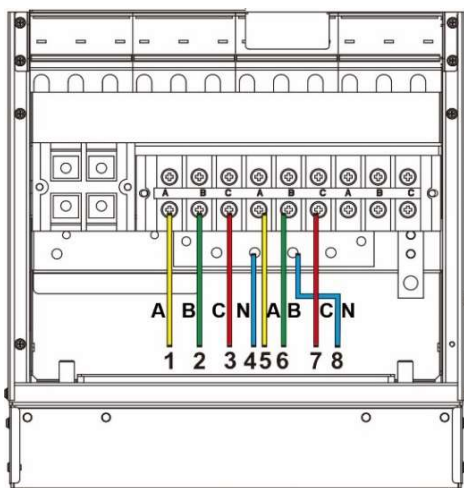

Fig. 3-14 Connect AC input cable (60 kVA)
Step 2: connect the bypass input cables to the bypass distribution terminals A, B, C and N successively, as shown in Fig. 3-14 and 3-15.